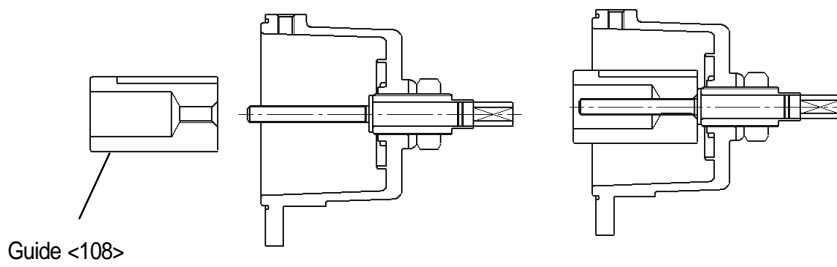

Fig.28
(5) Lubricate the spindle threads with Kyoudo Oil MULTEMP AC-J or the equivalent, and insert the guide onto the spindle till it contacts the spindle guard (**Fig.28**).